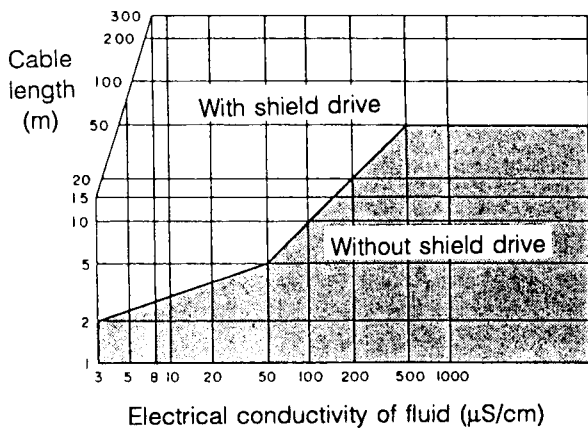

Figure 5-4. Detector Size 2.5 or 5 mm
There are two types of signal cables: one is with shield drive and the other is without shield drive. The type of cable to be used depends on the detector size, electrical conductivity of measured fluid, and cable length as shown in Figures 5-4 and 5-5. Note that processing of cable terminals differs by the type of cable.
Note 1: Specify when in the shaded section in Figure 5-4 or 5-5. (Without shield drive)
Note 2: Specify when in the clear section in Figure 5-4 or 5-5. (With shield drive)
- (6) When using cables other than Model KIW dedicated to MagneW, use equivalent ones shown in Table 5.2 in the condition that they meet the requirements of the shaded sections shown in Figure 5-4 and 5-5.